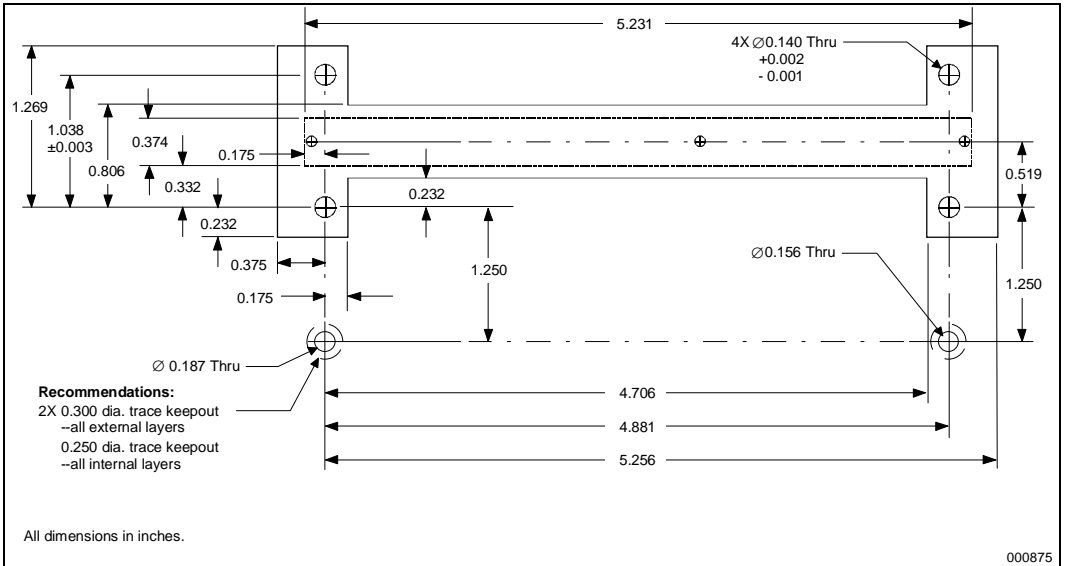
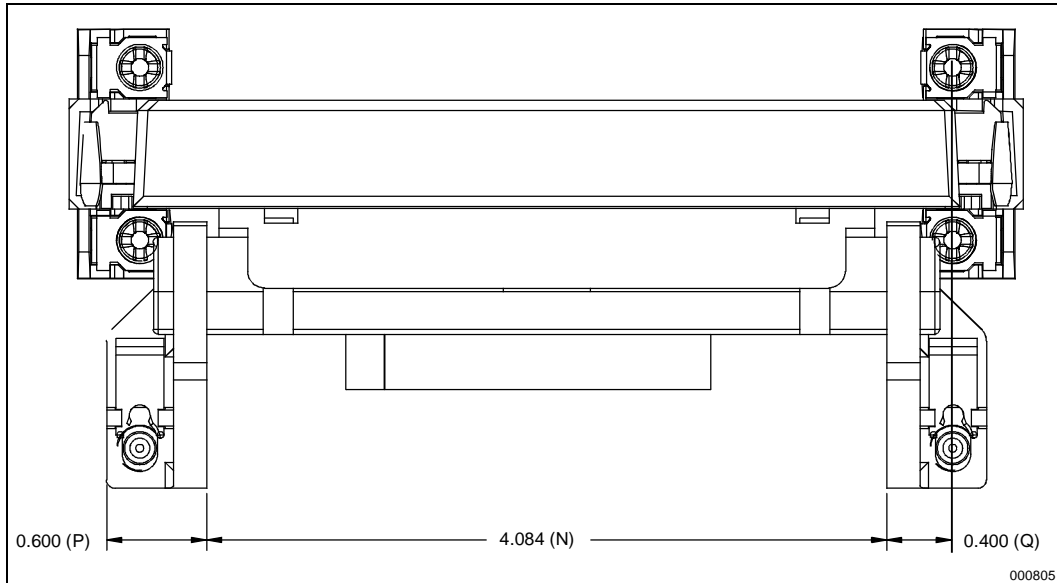

Figure 47. Heatsink Support Hole Locations and Sizes
Figure 49. Top View Space Requirements for Boxed Processor Fan/Heatsink Supports
The Boxed processor will ship with its own fan heatsink support. The support differs from supports for passive heatsinks. The Boxed processor fan/heatsink support requires heatsink support holes in the motherboard. Location and size of these holes are give in Figure 47.
1. This table applies to the dimensions noted in Figure 47 through Figure 49.